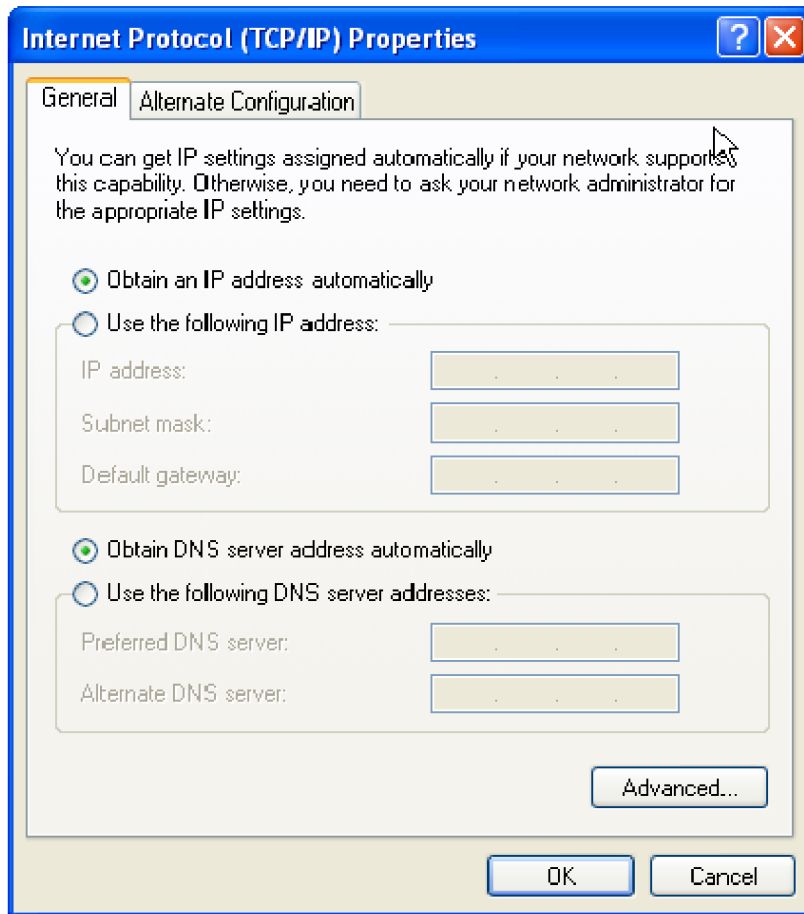

Figure 19: IP Properties dialog box
5. Click Properties. The IP Properties dialog box appears. (See Figure 19.)